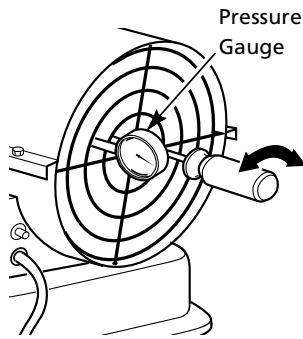

Figure 10 - Adjusting Pump Pressure
2. Install accessory pressure gauge (Part Number HA1180) (See Figure 10, page 7).
4. Adjust pressure to 6.0 psi. Turn relief valve to right to increase pressure. Turn relief valve to left to decrease pressure (See Figure 10, page 7).